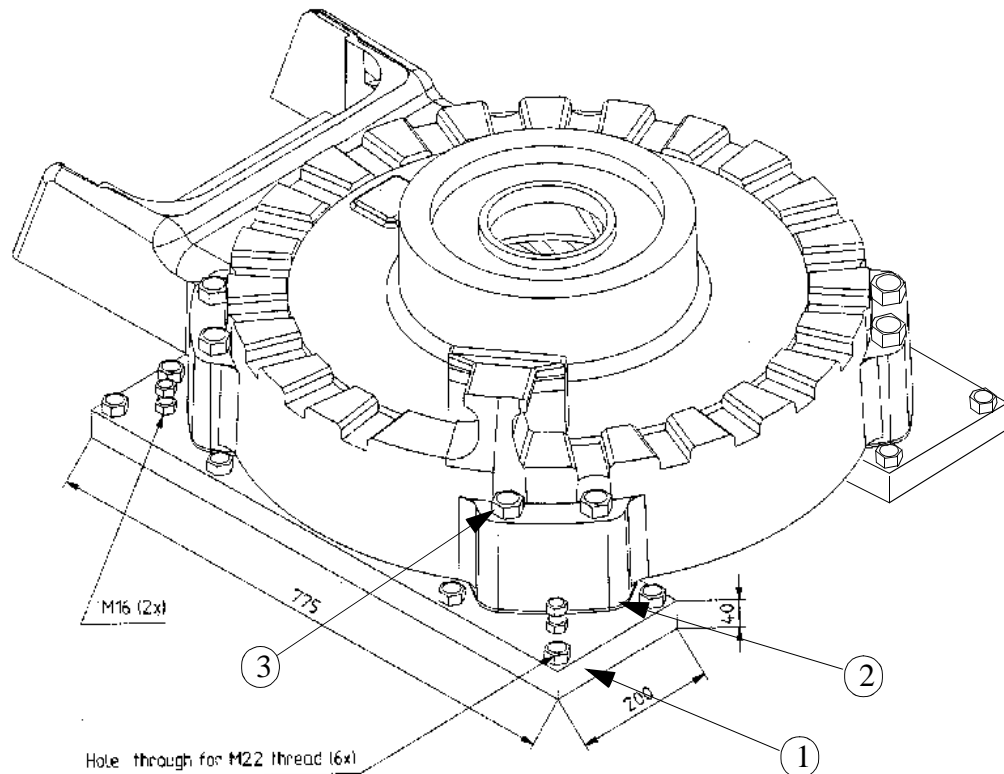

Figure 5 Base Plate.
It is recommended that the robot is mounted with M24x140, 8.8 Socket screws (3) on two base plates (1) with four locator bushings (2), that allows the same manipulator to be re-mounted without program adjustment (see Figure 5).
To orient the robot when attaching it to the floor, three guide pins can be fitted in the appropriate holes, $\text{Ø } 8,5$ mm (see Figure 5).